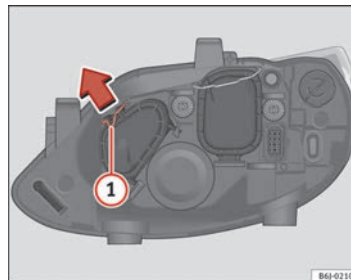

Fig. 148 Side lights
- Move the loop ① in the direction of the arrow and remove the cover ⇒ Fig. 148.